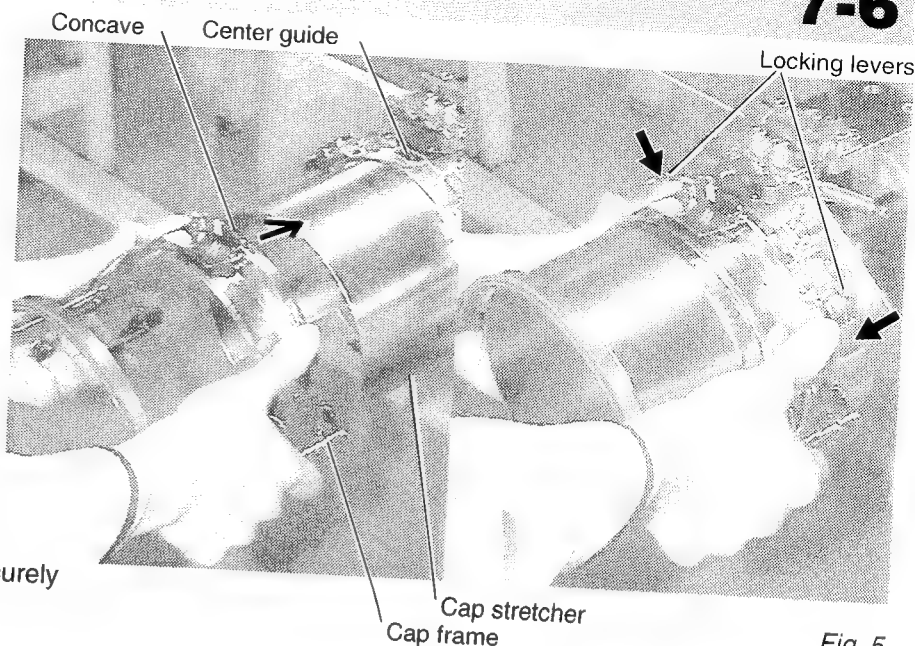

Fig. 5
2. As shown in Fig. 5, hold cap frame with both hands and place on cap stretcher. By pushing locking levers at 2 places with fingers, place cap frame so that center guide of cap stretcher fits in concave area of cap frame.
8. As shown in Fig. 5, place cap hold frame with cap on cap drive frame assembly of embroidery machine.